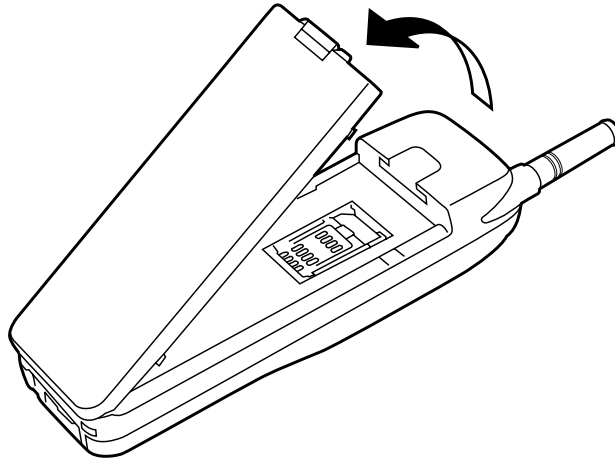

Figure 1: Battery removal
1. Figure 1 Press the release clip then tilt up as to remove the battery from the telephone